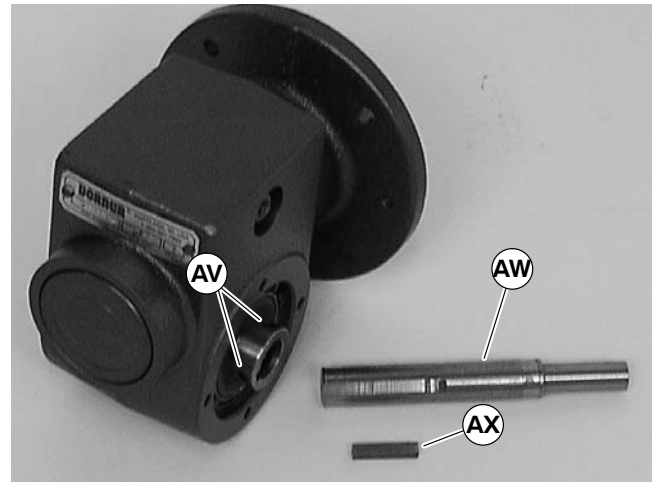

Figure 29
9. Remove two (2) screws (AS) and detach output shaft cover (AT).
10. Remove gear reducer output shaft key (AU).
11. Loosen six (6) set screws (AV of Figure 29). Remove drive shaft (AW) and key (AX).
13. Replace the original shaft components into new gear reducer (see Figure 29). Tighten set screws (AV) to 26 in-lb (3 Nm).